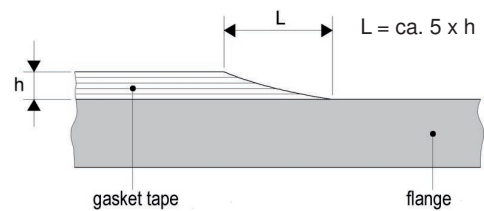
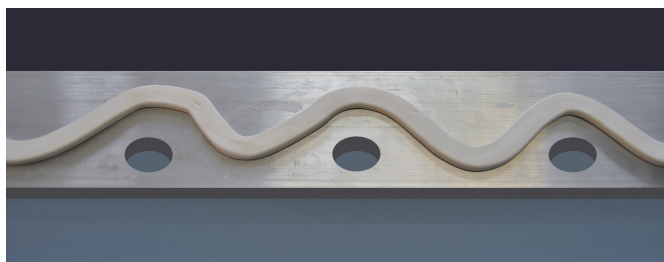
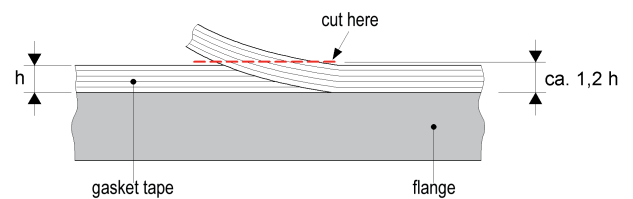

Figure 3.1.
Figure 2
Figure 3.2.
- For gasket tapes with a cross section larger or equal 17x6 mm, cut the ends as shown in Figure 3.1. and Figure 3.2.
- For stress-sensitive flanges mount tape as shown in Figure 2 and join the endings as shown in Figure 3.1. and 3.2.